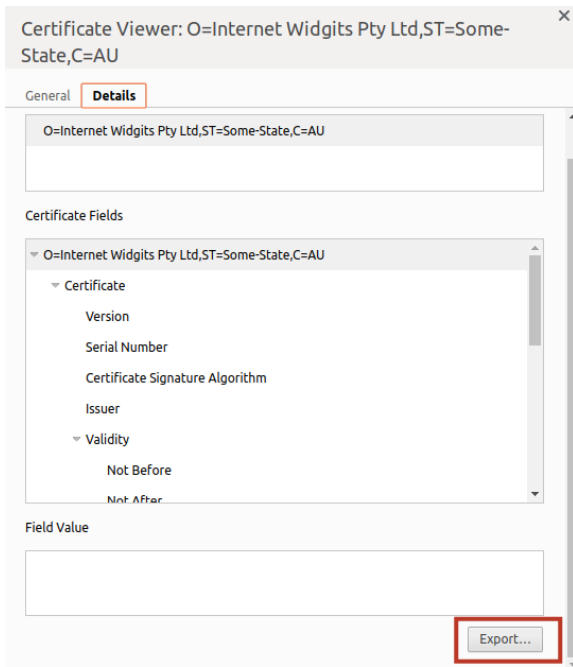

Fig. 21. 'Certificate viewer - Export' screen
- A new screen will appear with all of the information about the site certificate. Click on the 'Details' tab, followed by the 'Export ...' button that appears at the end of it, (Fig. 21).